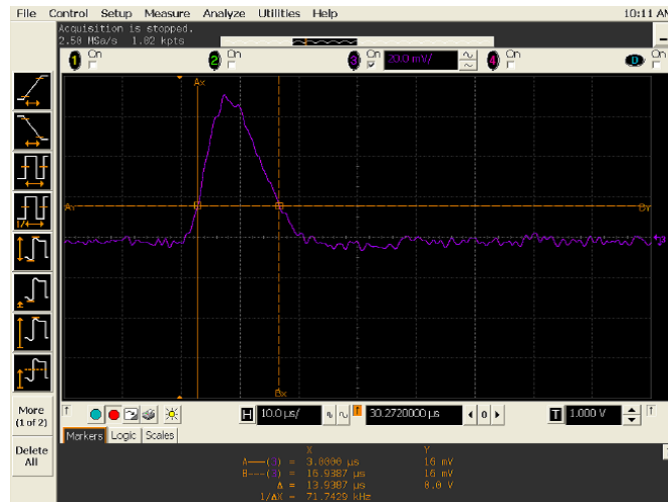

Figure 1-6 Graph of load transient response
- 7** Adjust the oscilloscope to display transients as shown in Figure 1-6. Note that the pulse width ($t_2 - t_1$) of the transients at 15 mV from the base line is no more than 50 μ s for the output.